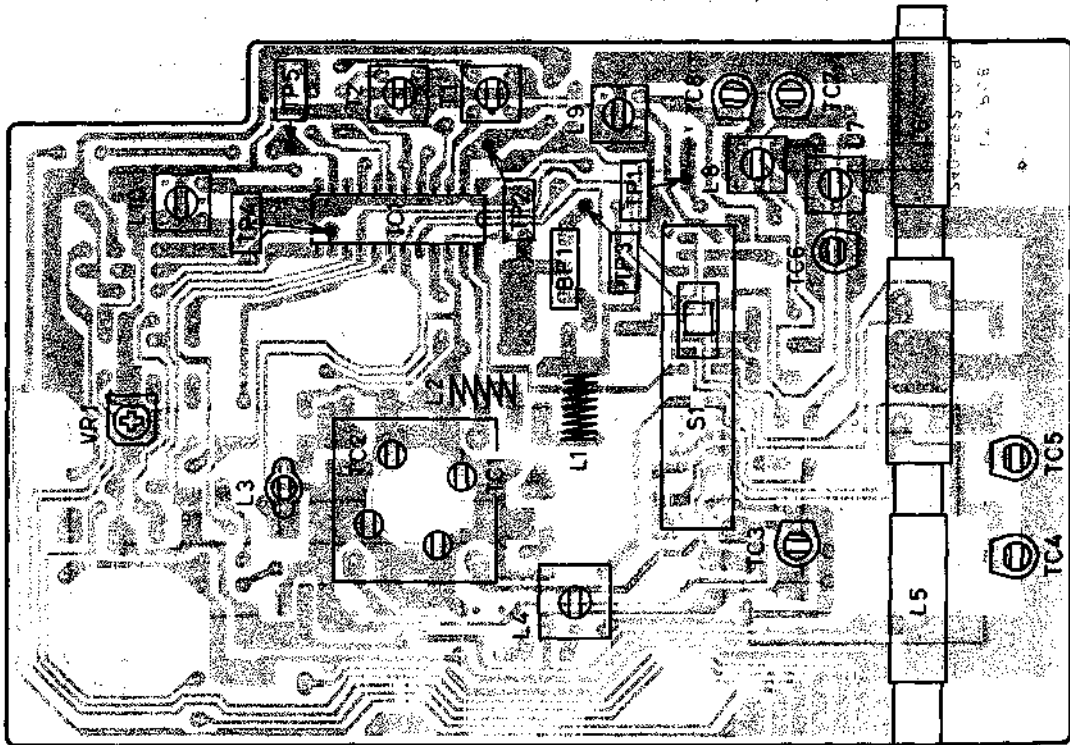

Figure 5
FM IF Alignment (Figures 5 and 8)
FM RF Alignment (Figures 5, 9 and 10)
SW RF Alignment (Figures 5, 11 and 12)
**AM IF Alignment (Figures 5 and 7)**
**MW RF Alignment (Figures 5 and 7)**
**SW1 RF Alignment (Figures 5 and 7)**
SW2 RF Alignment (Figures 5, 11 and 12)